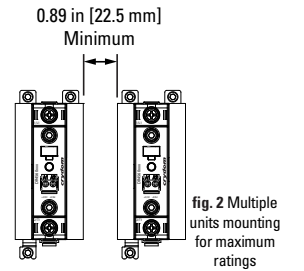

fig. 2 Multiple units mounting for maximum ratings
- To achieve maximum ratings, there must be a minimum spacing of 0.89 in (22.5 mm) between the devices in free air (as shown in **fig.2**).